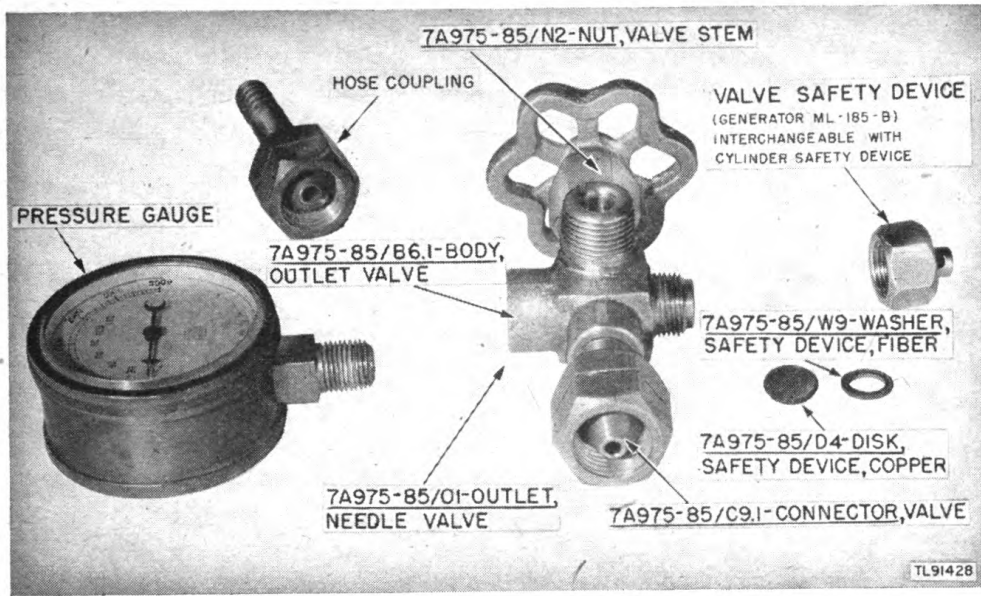
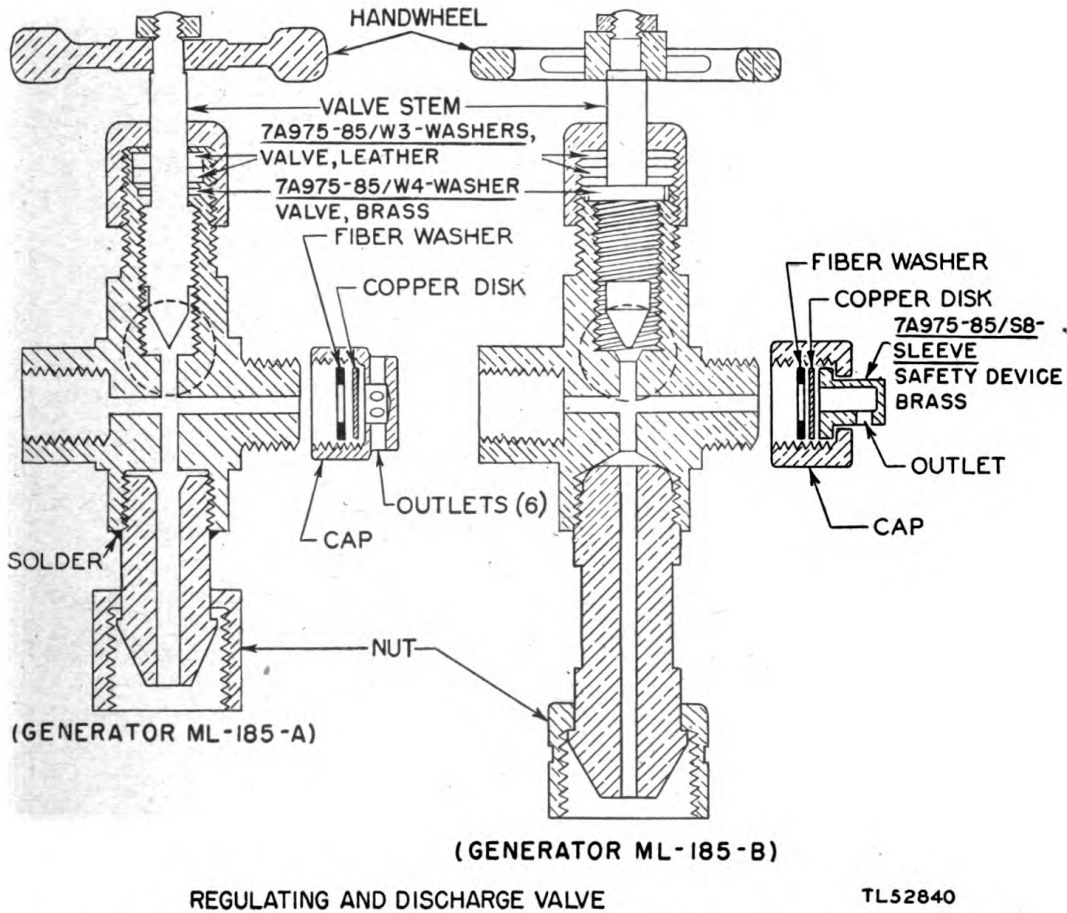

Figure 4. Outlet valve assembly.
Figure 5. Regulating and discharge valves with safety devices, cross-sections.
b. **REGULATING AND DISCHARGE VALVE (FIG. 5).** The regulating and discharge valve is a corrosion-resistant, high-pressure needle valve which controls the rate of discharge of the hydrogen from the cylinder. The valve body is made of bronze. It has an outlet connection and provisions for attaching an inlet coupling, a pressure gauge, and a valve safety device.
c. **PRESSURE GAUGE (FIG. 4).** The pressure gauge indicates the pressure and the volume of hydrogen within the reaction cylinder. The black scale on the gauge is calibrated in pounds per square inch over a range from 0 to 3,000 pounds. The red scale is not applicable to the generator.
d. **OUTLET HOSE COUPLING (FIG. 4).** The hose coupling provides a means of attaching Hose ML-81 to the outlet connection of the regulating and discharge valve assembly. One end of the coupling is secured to the valve assembly by a left-hand threaded union nut. The other end of the coupling is a serrated sleeve which receives Hose ML-81.
e. **VALVE SAFETY DEVICE (FIGS. 4 AND 5).** The valve safety device releases excessive pressure from the cylinder. It is secured on the valve assembly opposite the pressure gauge. The device differs in the two models, Generator ML-185-A and Generator ML-185-B. (See pars. 13*b*(1)(*c*), 13*b*(2)(*c*).)
a. **CYLINDER SAFETY DEVICE.** (1) *Generator ML-185-A.* The cylinder safety device for this model consists of a safety disk which bursts under excessive pressures, and of a right-hand threaded cap which holds the disk. The cap has hexagonal sides above which is a knob-like projection. In this projection are six holes through which the hydrogen escapes in all directions when the safety disk breaks. The copper safety disk is 9/16 inch in diameter and bursts at a pressure of 2,550 to 2,850 pounds per square inch. A fiber washer provides a seal for the disk.
(2) *Generator ML-185-B.* The safety disk for this model consists of a right-hand threaded cap, a sleeve, and a safety disk. The sleeve contains one outlet, and can be adjusted to assure a blow-off discharge in one direction when the disk blows. Always adjust the sleeve so that the discharge will be directed *down and away from the operator* and will not strike the cylinder. In this model, the copper safety disk is $1\frac{9}{32}$ inch in diameter and bursts at a pressure of 2,700 to 3,000 pounds per square inch. The nickel safety disk, used with the aluminum process, ruptures at a pressure of 3,000 to 3,500 pounds per square inch; the disk is $1\frac{9}{32}$ inch in diameter. The cylinder and valve safety devices (par. 13b(2)(c)) for Generator ML-185-B are interchangeable. (See fig. 5.)
b. **OUTLET VALVE ASSEMBLY (FIG. 4).** (1) *Generator ML-185-A.* (fig. 5). (a) The valve stem of this model is made of brass.
(2) *Generator ML-185-B.* (fig. 5). (a) The valve stem of this model is made of stainless steel.